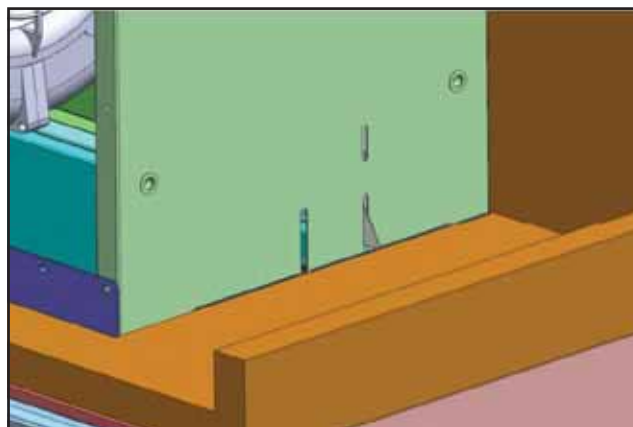

Fig.4
3) There are spring clips located on the left and right sides of the hood body which will temporarily hold the hood in place, Fig.4.